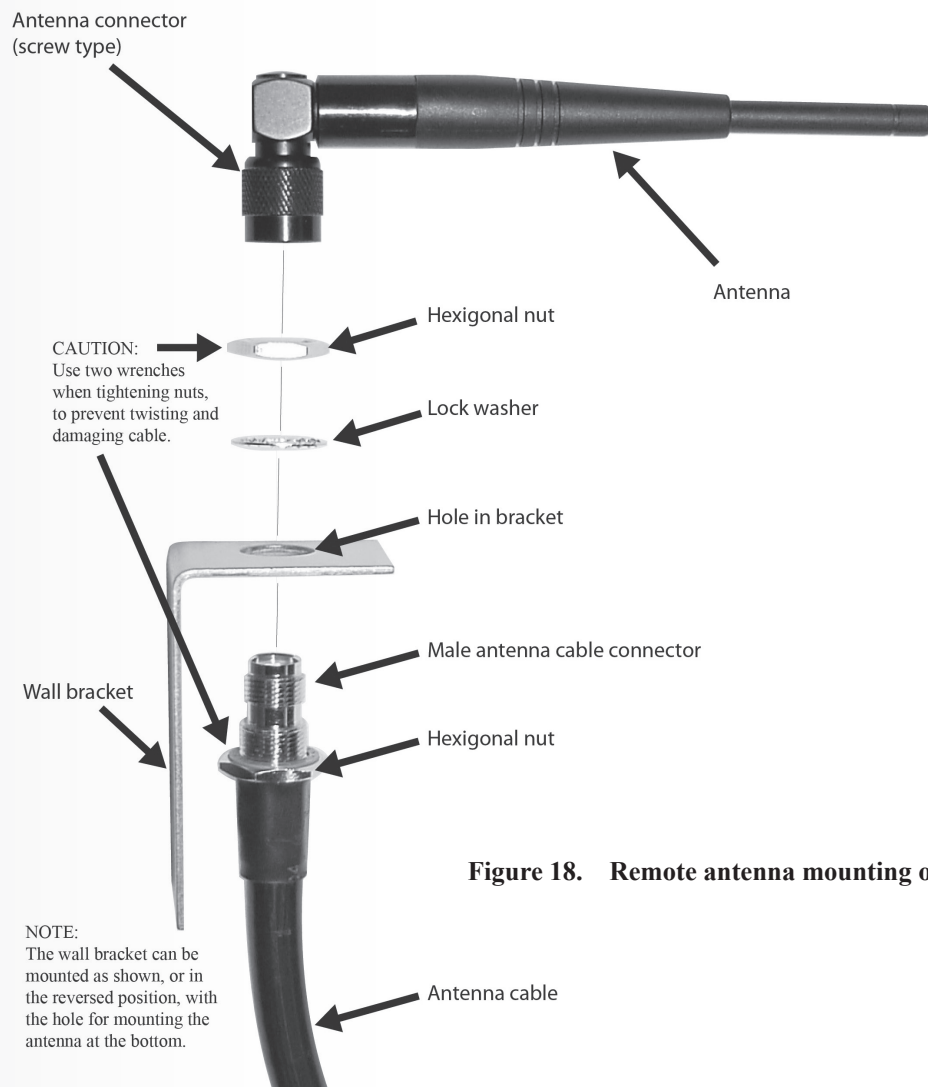

Figure 18. Remote antenna mounting on wall bracket
12. Insert the antenna cable connector through the hole in the mounting bracket as shown in **Figure 18**, and screw the hexagonal nut onto the connector to secure it in place on the bracket.